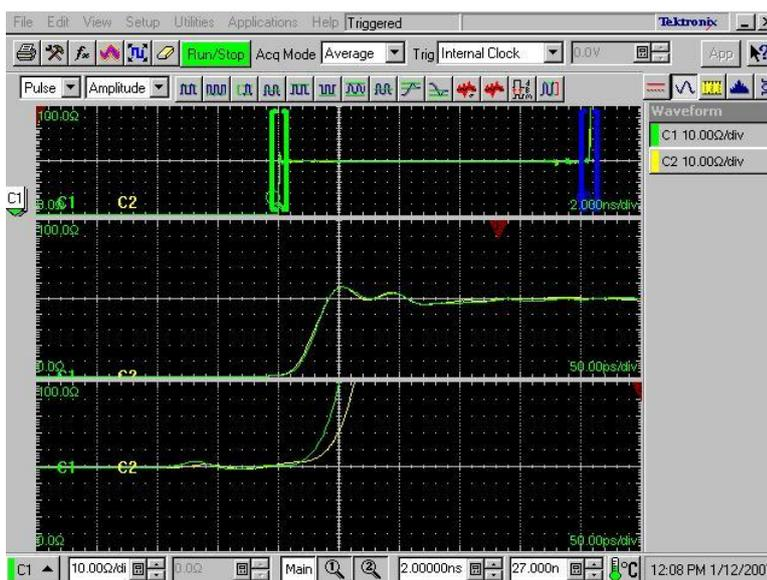

Figure 5 Magnifying the TDR step pulses and the waveforms at the open ends of the test fixture
- a. Press the **VIEW Mag1** button, and then use the **HORIZONTAL POSITION** knob and **HORIZONTAL SCALE** knob to display the TDR step pulses properly (see Figure 5).
- b. Press the **VIEW Mag2** button, and then use the **HORIZONTAL POSITION** knob and **HORIZONTAL SCALE** knob to display the waveforms at the open ends of the test fixture properly (see Figure 5).